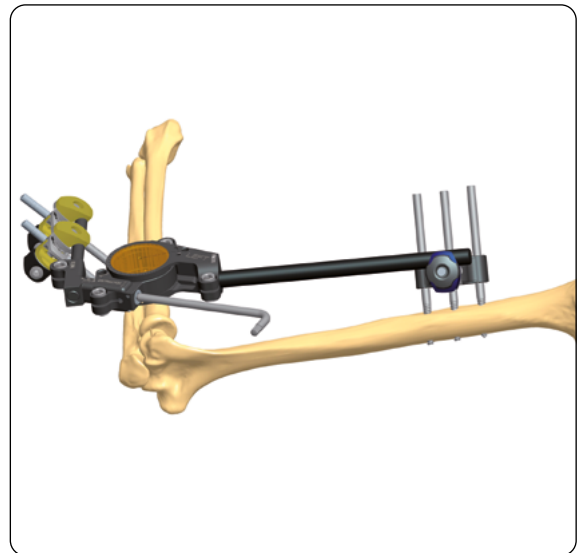

Fig. 14
13) Leave the Humeral Screws in place for the application of the Elbow Hinge Fixator. After having centered the hinge fixator as described from page 26 onwards and inserted the Ulnar Screws, use the Built-in Distractor Unit (central unit) and re-distract the elbow minimum twice the normal joint space. Do not exceed 10mm. Once the articular surfaces have been separated in this way, the elbow joint can be forced gently into flexion and extension. The resistance must be overcome by controlled continued manipulation. The Ulnar Nerve must be monitored. If a severe extension deficit is treated by forcing the elbow into extension, care has to be taken to the Radial Nerve as this maneuver might damage it (**Fig. 14**).